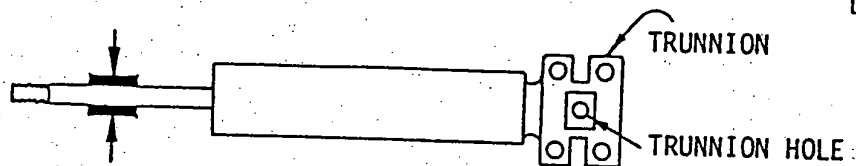

Fig. 11.
11. Push the piston rod all the way to the end of the cylinder barrel as shown in Fig. 11.